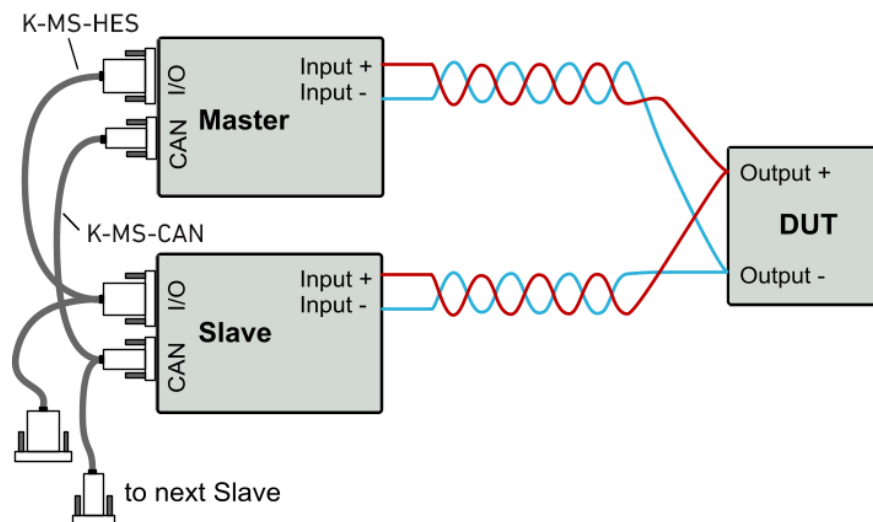

Figure 4.23: wiring in master-slave mode
- Connect the load inputs of all system units to the test object as shown in Figure 4.23 twisted. Run the cables of all system units to the test object; do not connect them to the system units!